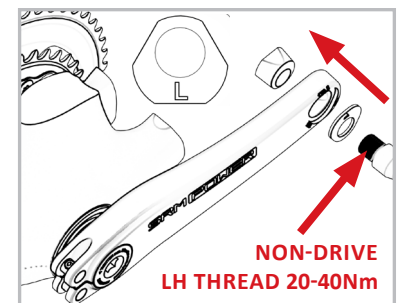

FIG. 7
- Repeat the installation process with the Tri-lobed nut marked "L" on the Non-Drive side crank arm (Fig. 7).
- Make sure the magnet is positioned between 21-51 mm from the center point of the bottom bracket shell. (Fig. 7).